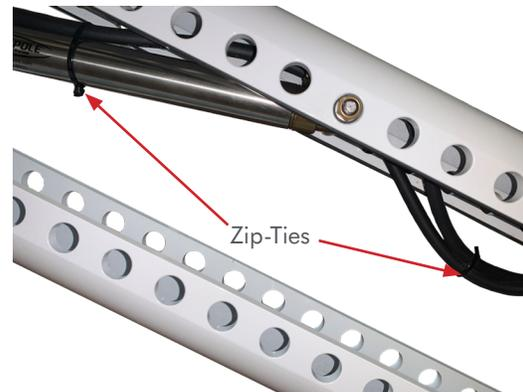

Figure 8
**STEP 4** Cut both **Zip-Ties**. **FIG 8**
**STEP 6** Secure the **UP & DOWN Hydraulic Hoses** together about 4" to 5" from the bottom of **Hydraulic Cylinder** and around 4" to 5" up the cylinder using **Zip-Ties**. **FIG 8**